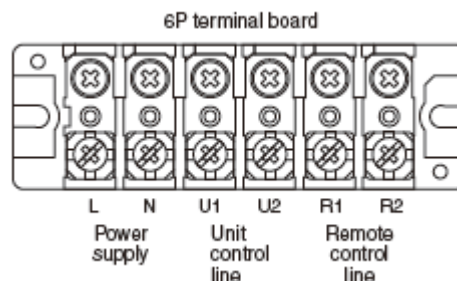

Fig.8-2
- (1) Refer to Section 8.2. "Recommended Wire Length and Wire Diameter for Power Supply System" for the explanation of "A", "B", "C", "D", "E" and "F" in the above diagram.
- (2) The basic connection diagram of the indoor unit shows the terminal boards, so the terminal boards in your equipment may differ from the diagram.(Fig.8-2)
- (3) Refrigerant Circuit (R.C.) address should be set before turning the power on.
- (4) Regarding R.C. address setting, refer to the installation instructions supplied with the remote controller unit(optional). Auto address setting can be executed by remote controller automatically. Refer to the installation instructions supplied with the remote controller unit(optional).